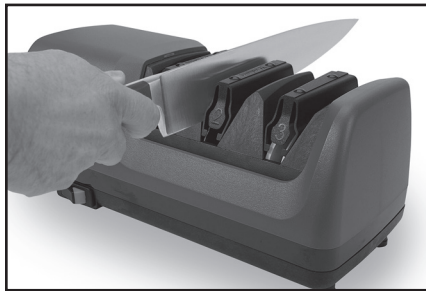

Figure 13. Honing in Stage 2 (left slot). European and American style blade.
Stage 2 will create the primary facet of 20 degrees on the European/American knife. Turn on the power switch. Start by slipping the blade between the left angle guide of Stage 2 (Figure 13) and the knife holding spring while pulling the blade toward you and simultaneously moving the blade downward in the slot until it engages the diamond coated disk. You will hear it contact the disk. Insert the blade as close as possible to the bolster or handle. If the blade is curved lift the handle slightly as you sharpen near the tip of the knife. Sharpen the entire blade length. Then repeat with one full length pull in the right slot of Stage 2. Always make pairs of pulls, alternating pulls in the left and right slots of that Stage. Each pull should be about 4-5 seconds for 5" long blade and slightly slower for longer blades. Make about five (5) pairs of pulls, then check for a burr along the entire edge length. (See page 8 and Figure 9). Continue with more alternating pairs of pulls until the presence of a burr is confirmed. More pulls will be needed if the knife is very dull.